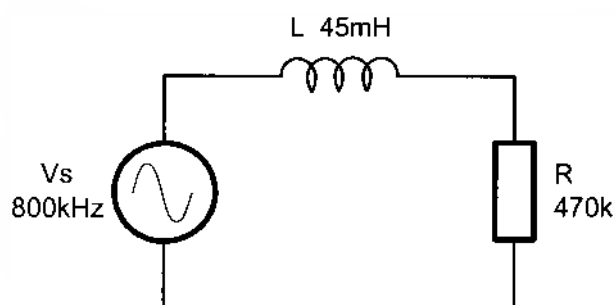

Figure 3
5. For the circuit of Figure 3, if the potential difference across the inductor (V_L) is 8.7V, then calculate: